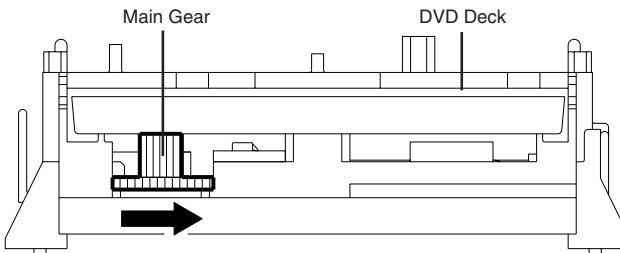

Fig. 1
1. Remove the Top Cabinet and Front Cabinet. (**Refer to item 1 of the DISASSEMBLY INSTRUCTIONS.**)
2. Rotate the Main Gear in the direction of the arrow by hand. (**Refer to Fig. 1**)